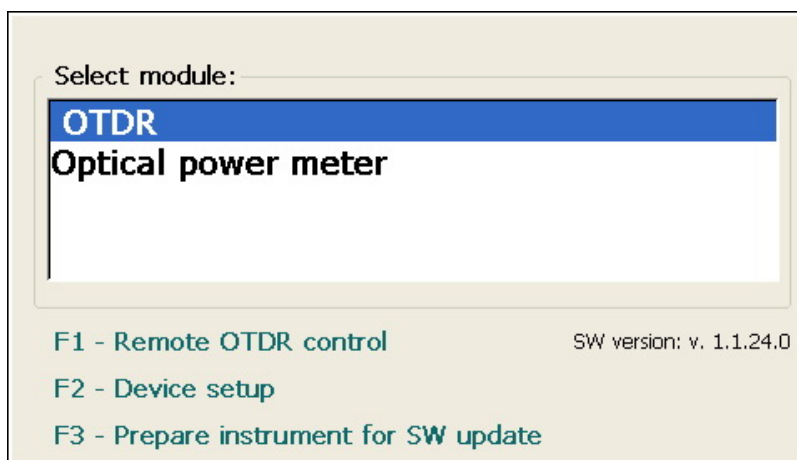
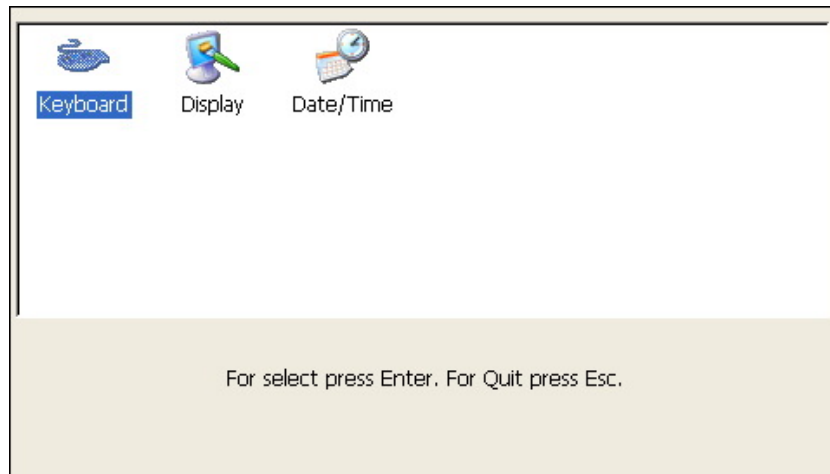

Figure 6.2
Figure 6.3
6.4.1 When device being switched on, the software is loaded. Loading being completed, the window shown in **Figure 6.2** appears on the screen. The window contains the information on the modules enabled in the device:
6.5.1 Pressing the button **F2** (see **Figure 6.2**) will activate the window shown in **Figure 6.3** for setting up the device
7.1.1 Choosing the “OTDR” item in the window shown in **Figure 6.2** and
F4 →  – opens the window for setting up the device (see 6.5 and Figure 6.3).